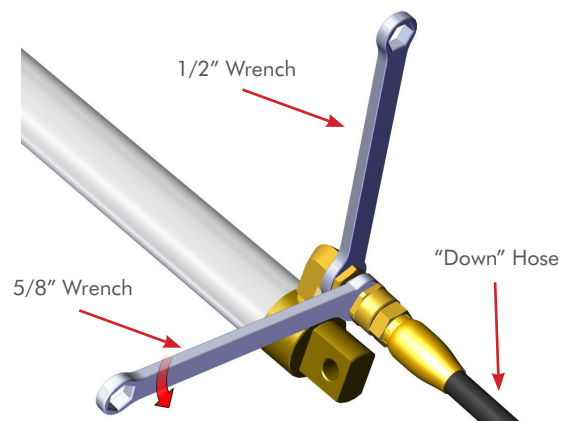

Figure 3
- STEP 3** Disconnect the "Down" hydraulic hose from cylinder by holding the cylinder fitting base with a 1/2" wrench and then turn hose fitting counter clock wise with a 5/8" wrench. (**FIG. 3**)